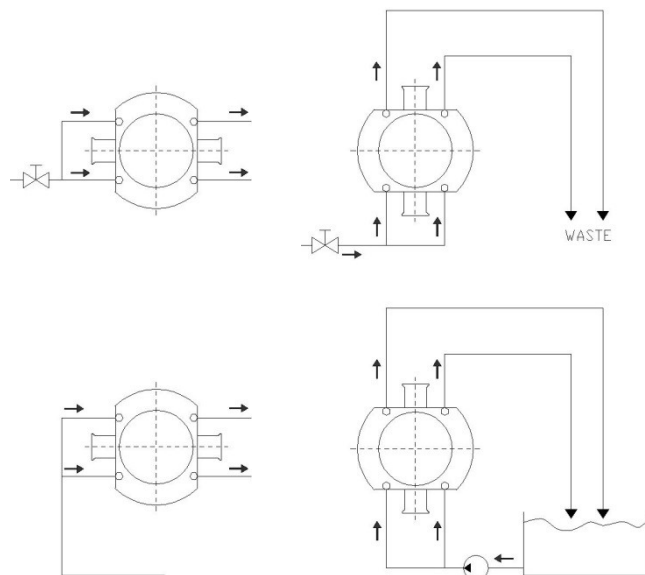

Figure 11 - Suggested low pressure flushing system
- Pipework should be as shown in the diagram (Figure 11).